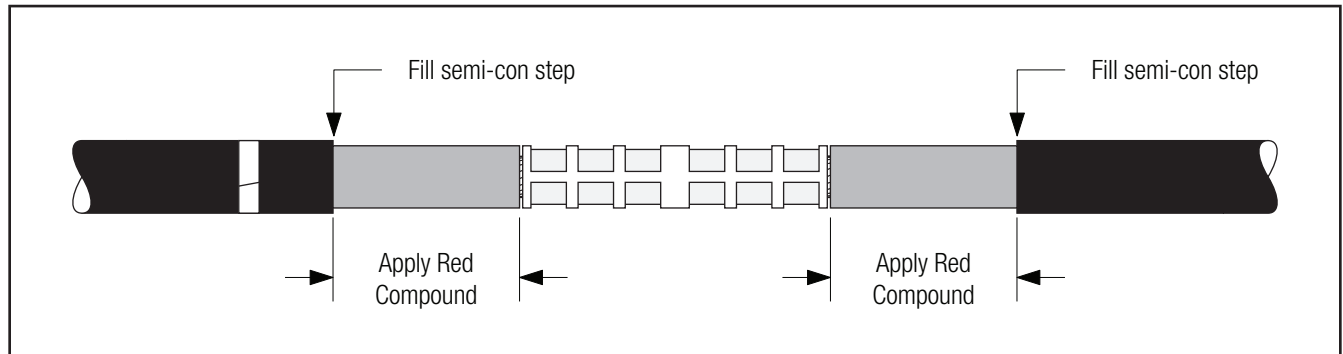

Figure 19
5.4 Apply red compound on cable insulations, making certain to fill in edge of cable semi-con. **Do not use silicone grease** (Figure 19).